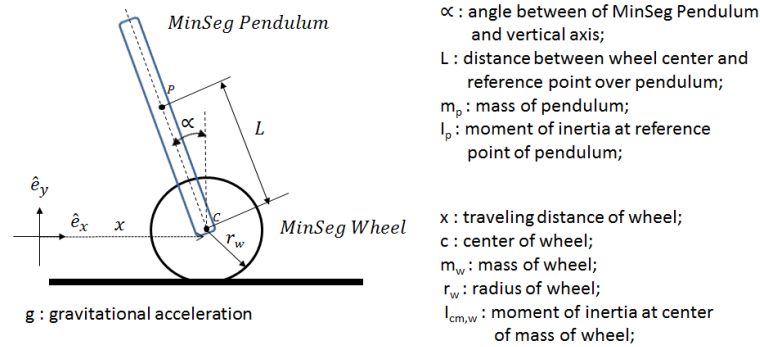

Figure 2 Mathematical model of MinSeg around the zero-equilibrium system.
Figure 2 depicts the motion of a MinSeg over the flat ground. In HW1, the equation of motion is given as (1).
- Step 2** Measure the physical parameters of your MinSeg as shown in Figure 2. Find creative ways to measure the weight in grams (home kitchen scale, post office, grocery store, etc.). Create a table to list the values of your measurement in SI unit. Set reference values of (k_t, K_b, R) as $(k_t, K_b, R) = (0.3233 \text{ Nm/A}, 0.4953 \text{ Vs/rad}, 5.2628 \text{ ohms})$.